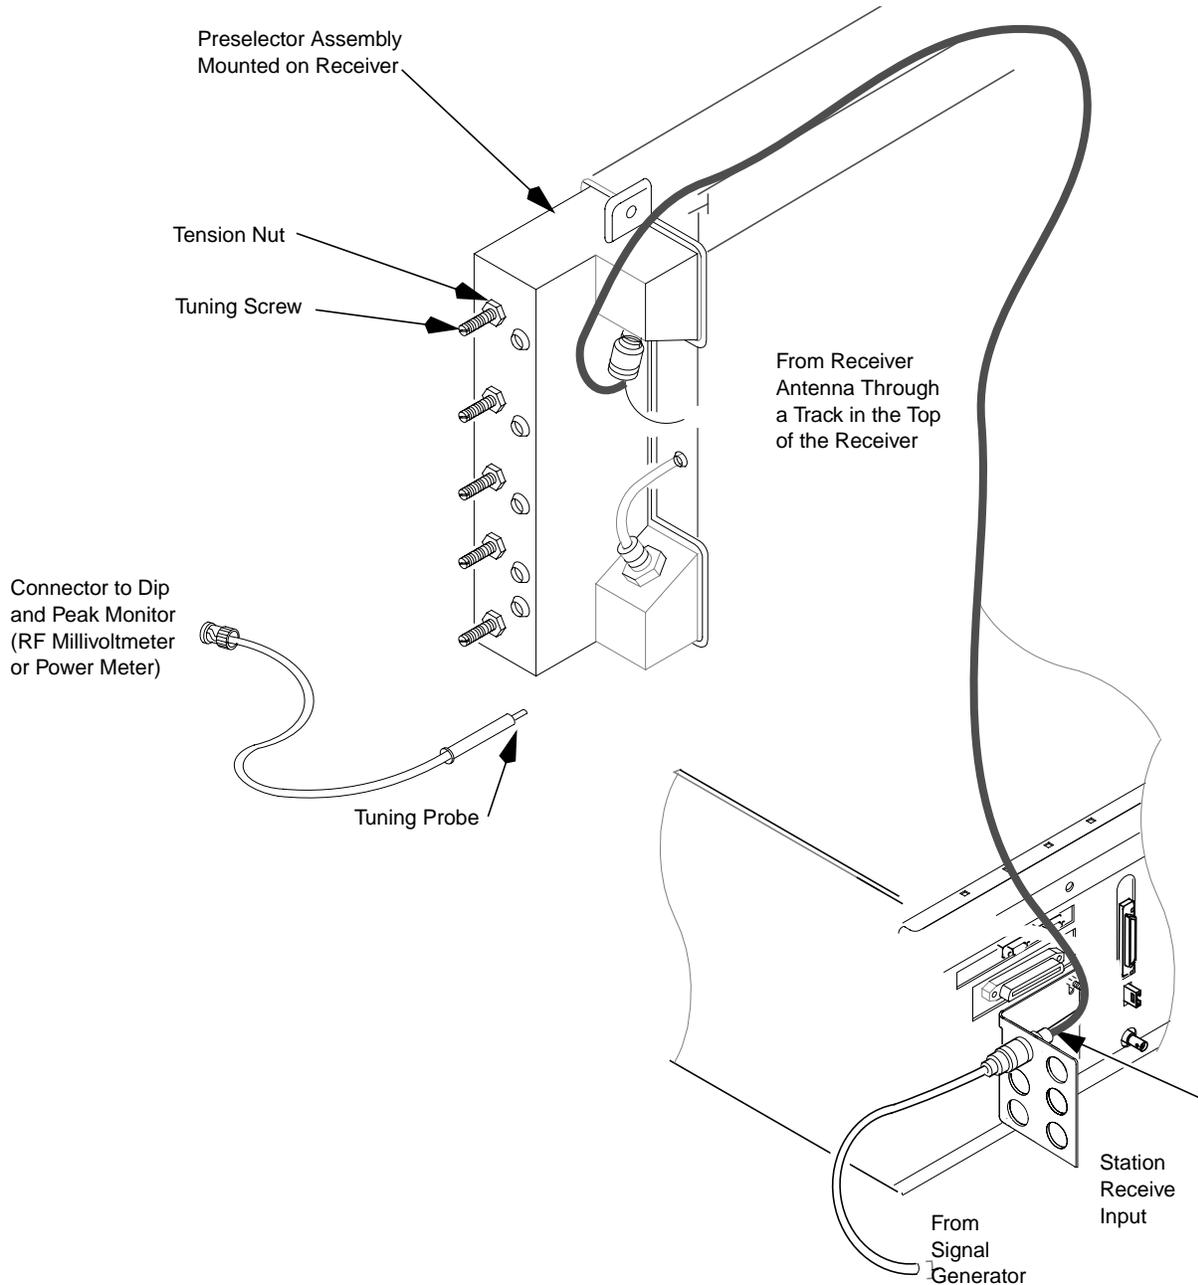

Figure E-10: Test Equipment Setup (UHF Has Three Screws)
5. Connect the test equipment (see Figure E-10).